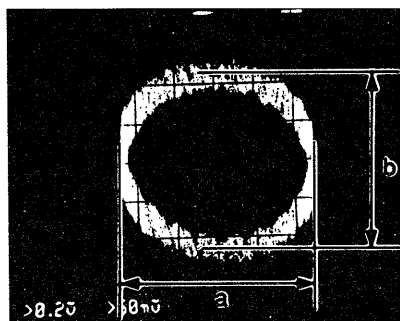

Fig. 1 Focus gain adjustment (95 deg)
4. Adjust on the oscilloscope so as to attain the status (a=b) shown in Fig. 1.
5. Adjust each RV so that phase difference is 95 ± 5 deg (Fig. 1).